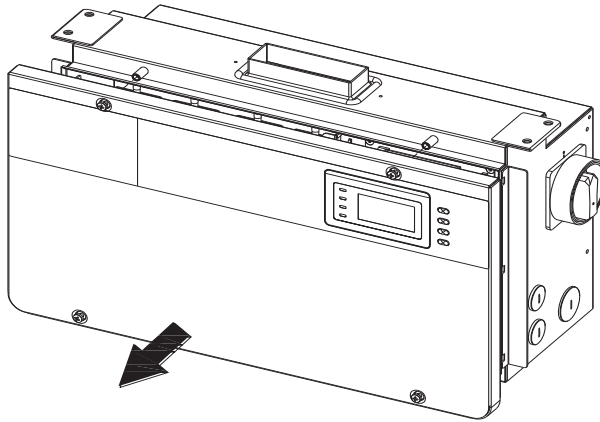

Figure 2.24 - Remove the Wiring Box Cover
- 1) Use a #3 Phillips head screwdriver to loosen the 4 screws on the wiring box and remove the cover. (see Figure 2.24)